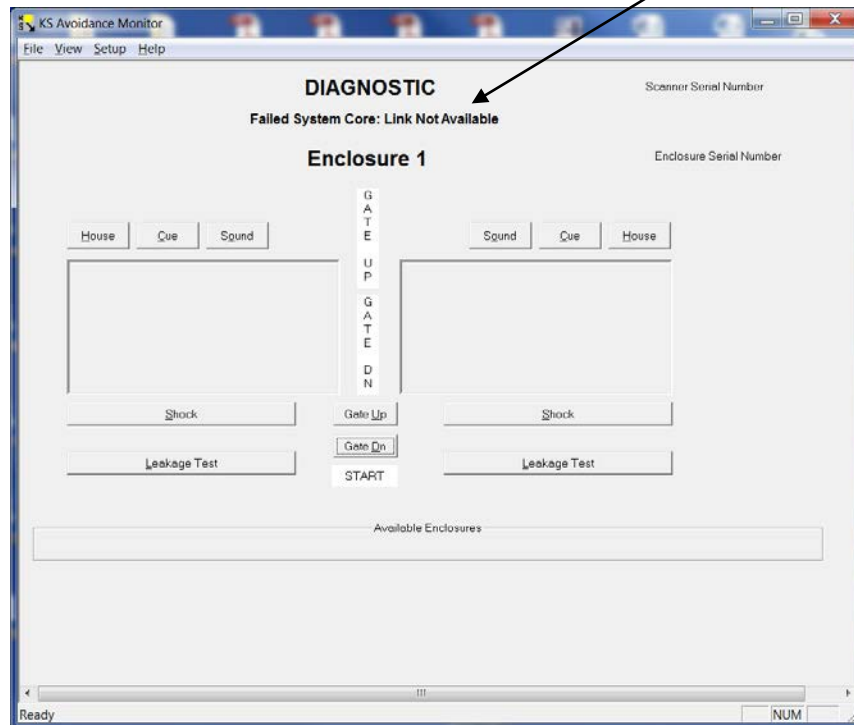
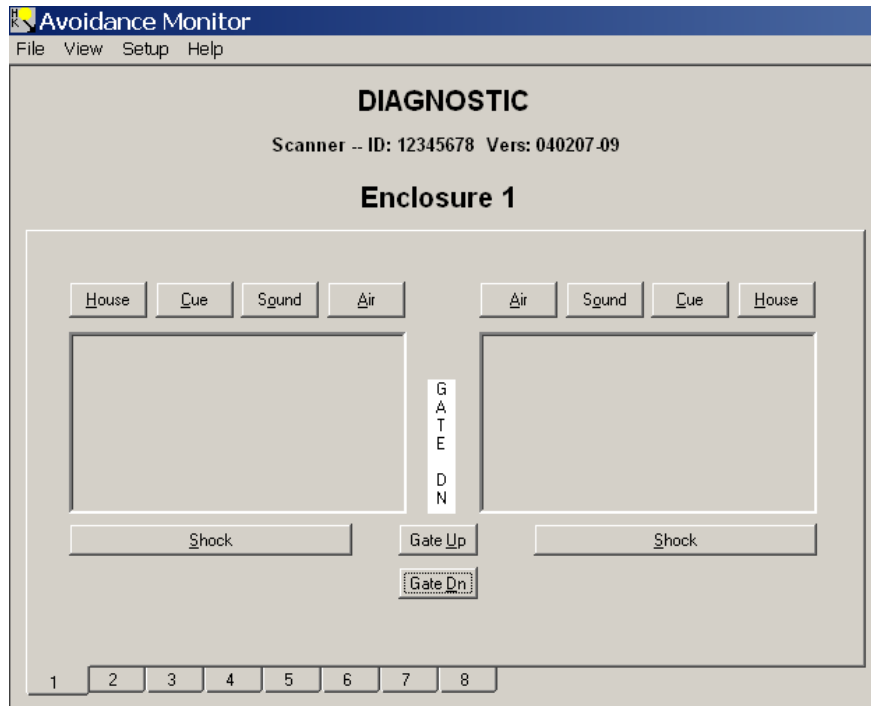

Figure 2-3. Diagnostic Communications Failure Screen
Figure 2-4. Diagnostic Screen Showing Normal Communication
1. Select the **View** menu, then click on **Diagnostic**. If there is a communications failure, a screen similar to Figure 2-3 will appear. If there is no failure, a screen similar to Figure 2-4 will appear.
6. A visual indication that the problem is rectified will be a display similar to the one shown in Figure 2-4.